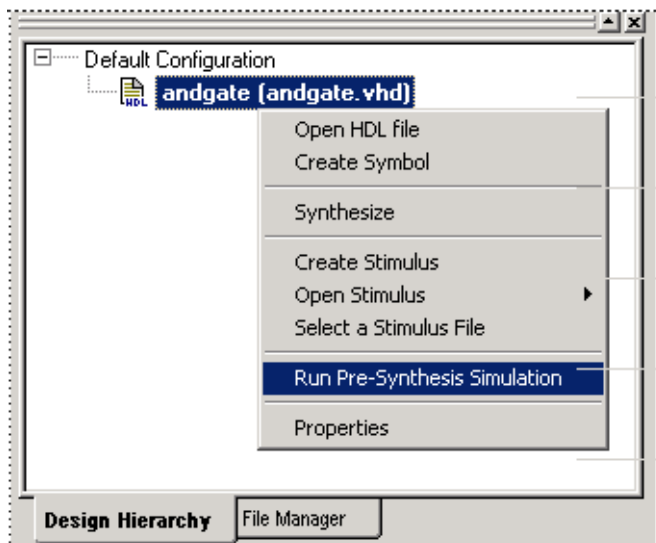

Figure 5-13. Run Pre-Synthesis Simulation
4. Double-click the ModelSim simulation icon in the Libero IDE Process window, or right-click *andgate* in the Libero IDE Design Hierarchy tab and select *Run Pre-synthesis Simulation*, as shown in Figure 5-13.